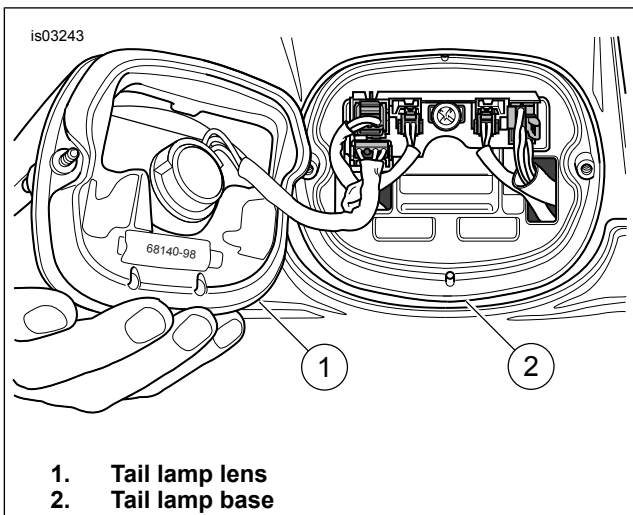

Figure 1. Remove Tail Lamp Lens
- a. See Figure 1. Remove two screws and tail lamp lens (1) from base (2).